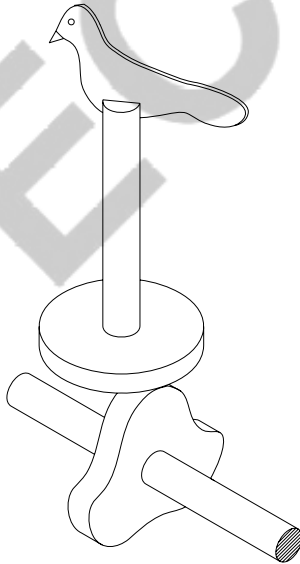

Fig. 14
- (ii) Explain why the follower in Fig. 14 is unsuitable for this cam.
(iii) Describe the result of using an offset follower as shown in Fig. 14.